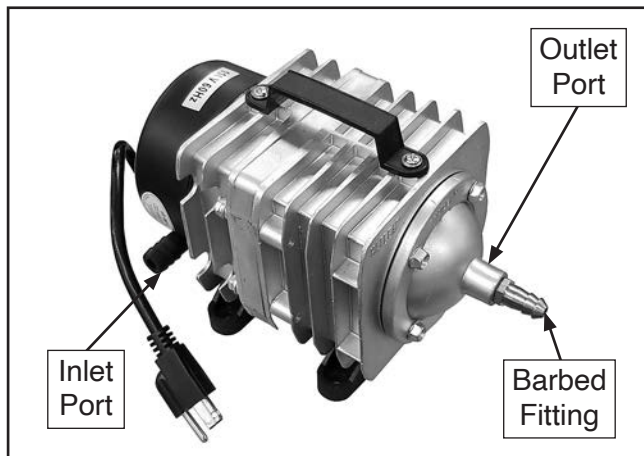

Figure 20. Air pump components.
1. Thread barbed fitting into air pump outlet port and tighten (see **Figure 20**).